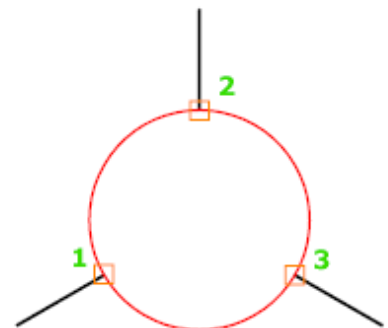

Figure 23
3. **2P (Two Points):** Creates a circle based on two endpoints of the diameter (Fig. 23).